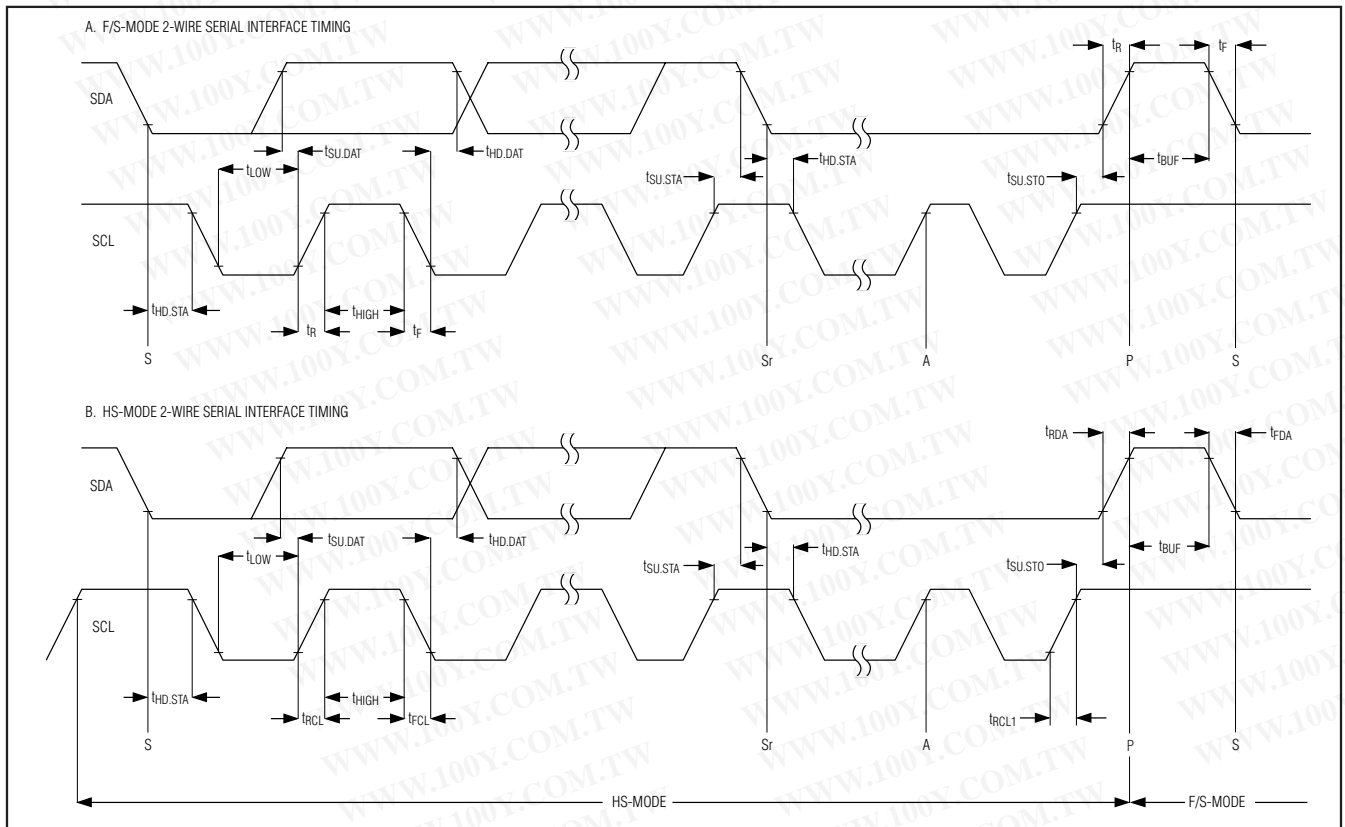

Figure 1. 2-Wire Serial Interface Timing
### TIMING CHARACTERISTICS (Figure 1)
## TIMING CHARACTERISTICS (Figure 1) (continued)
- Note 10:** A master device must provide a data hold time for SDA (referred to  $V_{IL}$  of SCL) in order to bridge the undefined region of SCL's falling edge (see Figure 1).
up to 22.2ksps. The MAX1136–MAX1139 must operate in high-speed mode (HS-mode) to achieve conversion rates up to 94.4ksps. Figure 1 shows the bus timing for the MAX1136–MAX1139's 2-wire interface.